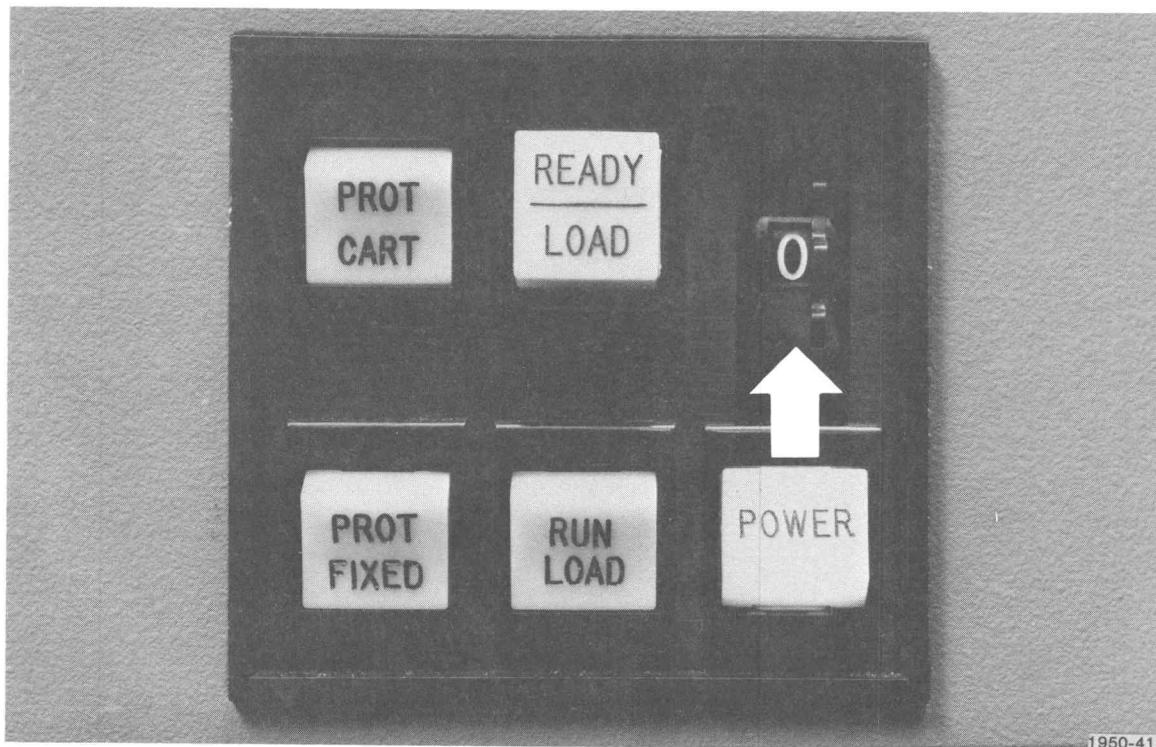

Fig. 8-16. The white light in the POWER switch is lit when the Hard Disc Unit is on.
1. If the Hard Disc Unit is off, press the top half of the POWER switch located on the lower right of the drive. There is one POWER switch for each Hard Disc Unit drive. The white light in the switch should be lit (Fig. 8-16). The MAIN POWER switch on the lower rear side of the 4905 Mass Storage Module should be in the ON position and the green light in the switch lit.